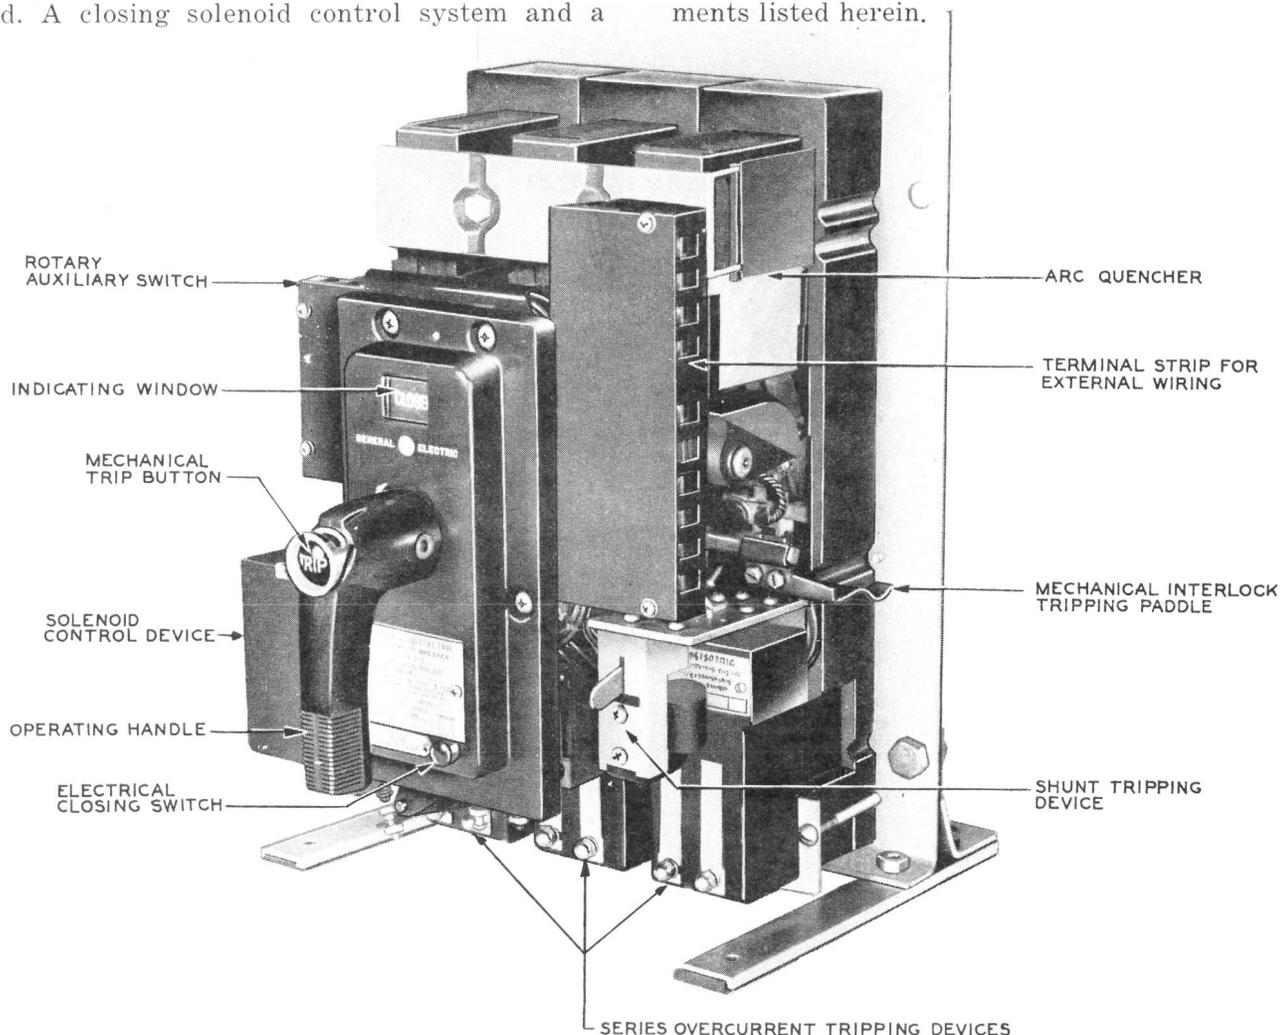

Fig. 1 - Breaker With Cover Removed
***#2.10 Closing Switch:** See Fig. 1 — Electrically operated breakers may be provided with a push button which, when depressed, should close the breaker.
Fig. 1 — The closing solenoid and its control system may be actuated by the closing switch on the breaker or by a remote control switch, if provided. When actuated, the solenoid control system shall cause the closing solenoid to close the breaker promptly and, when closed, cause the closing solenoid to release.
2.12 Shunt Trip Device: See Fig. 1 — Check that this device trips the breaker open when the associated remote control switch is operated. For proper operation, an armature overtravel between 1/32 and 1/16 inch is required.
(2) To gain access to the main contacts, remove the front cover by unclasp the four fasteners on the case or loosen bolts at bottom and unhook cover. This will trip the breaker open. Remove the arc-quencher front clamp using a 7/16-inch open-end wrench to unscrew the two holding bolts. (See tops of Figs. 1 and 2.) Bend out the steel fingers of